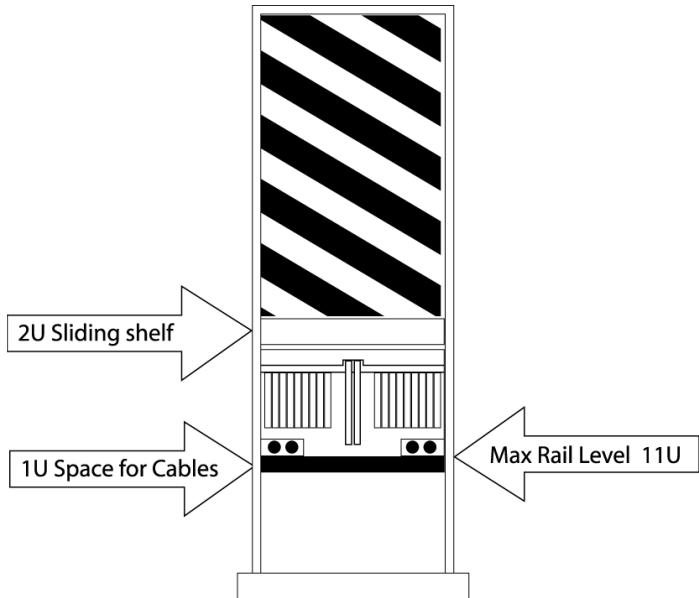

Figure 17 Rail tray mounting location requirement
- Determine the mounting location for the rail tray (Figure 17).